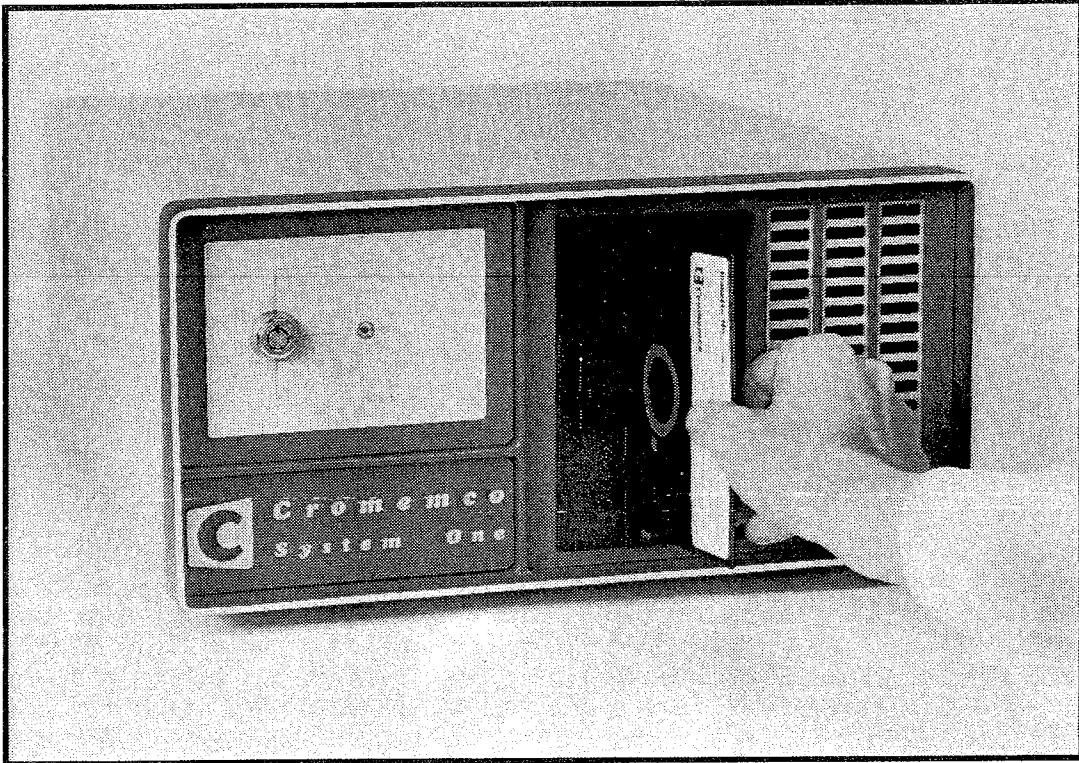

Figure 1-6: INSERTING THE DISKETTE
3. With its label to the left and towards you, insert the diskette in the drive slot. Push the diskette gently until it is all the way in and has come to a stop. **DO NOT FORCE THE DISKETTE.** Refer to Figure 1-6.